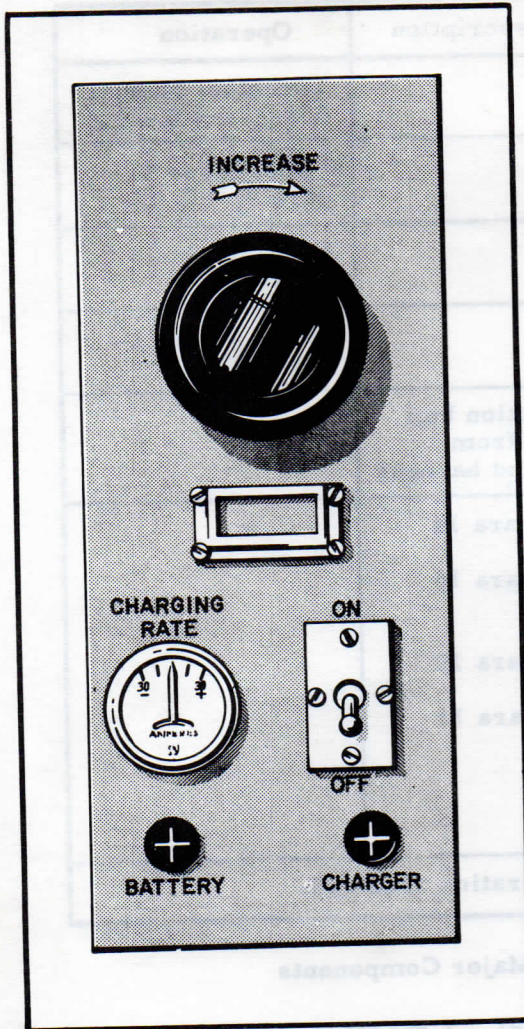

Fig 5 Charging Panel
6. The wiring from the battery banks to the Charging Panel (Fig 5) is permanently installed. Batteries can be charged while the station is in operation. The procedure is as follows: